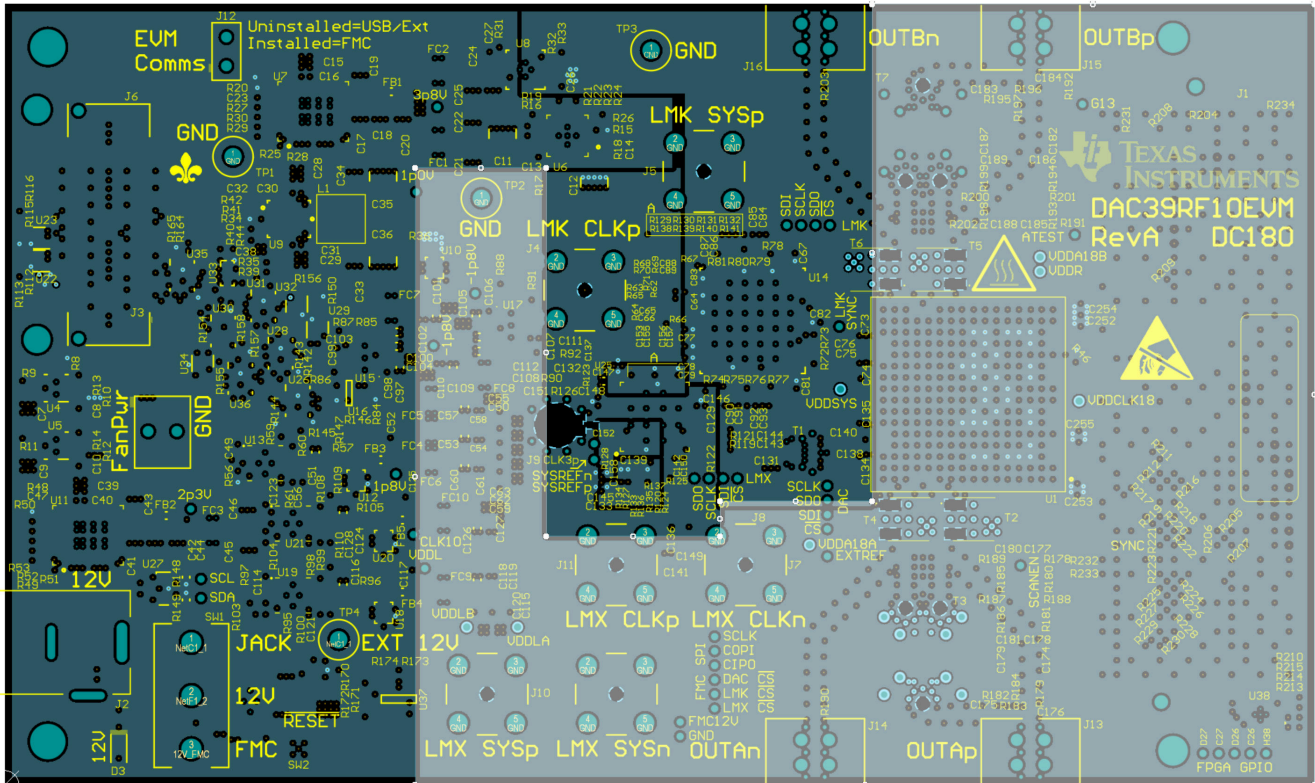

**Figure 8-30. Serdes Bottom Layer Routing with Ground Isolation**
9. Pay particular attention to potential coupling between JESD204x data input routing and the analog output routing. Switching noise from the JESD204x inputs can couple into the analog output traces and show up as wideband noise due to the high bandwidth of the DAC. Route the Serdes JESD204x data inputs on a separate layer, if possible, from the DAC output traces to avoid noise coupling, see Figure 8-29 and Figure 8-30 as examples.